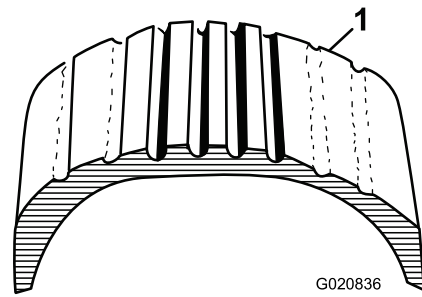
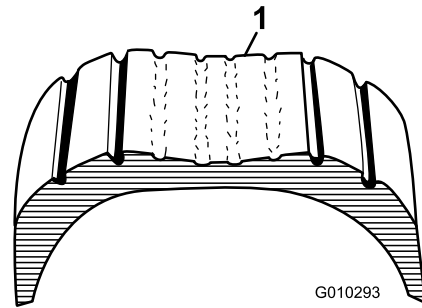

Figure 56
Figure 57
1. Visually inspect the tires for damage and wear (Figure 56 and Figure 57).